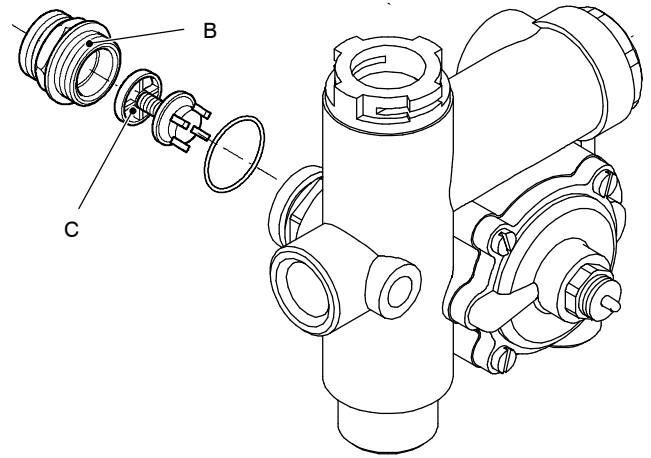

Fig. 65
- 4 Unscrew the connector B and remove the by-pass valve C (Fig. 65).
- 5 Reassemble the by-pass valve as illustrated in Fig. 65 reversing the order of removal.